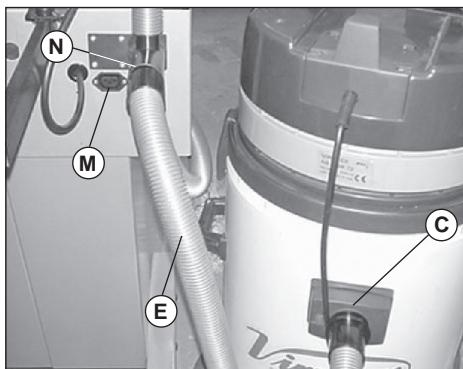
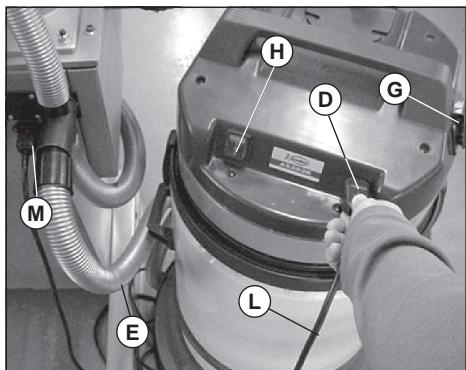

Fig. 4
Fig. 5
- Insert the dust collector tube into opening C (Fig. 4) of the dust collector and into the socket of machine N (Fig. 4).
- Connect control cable L (Fig. 5) to dust collector connection base D (Fig. 5) and to machine connection base M (Fig. 5).
- Plug the dust collector into a power socket and put switch H (Fig. 5) into position "II". Once in this position, when the trimmers of edgebander EB35 are working, the dust collector will automatically switch on, and will continue to function for approximately 5 seconds after the trimmers have stopped.
- Never connect edgebander EB35 to supplementary socket G (Fig. 5) of the dust collector.
- Connect the plug to a power socket and turn switch H (Fig. 5).
- Connect the aspiration tube to vacuum opening C (Fig. 4) and to the socket on the electric tool. Connect the plug of the tool to the supplementary socket G (Fig. 5) on the upper part of the dust collector head.
Connect the dust collector plug to the mains and turn switch G (Fig. 5) to position "II". In this way, each time the tool is used, the dust collector will also switch on automatically.
- Ensure that the float (Fig. 4) is not damaged or obstructed by anything that may stop it from rising. The floats function is to stop the suction when the tank is full or if the machine should overturn accidentally.